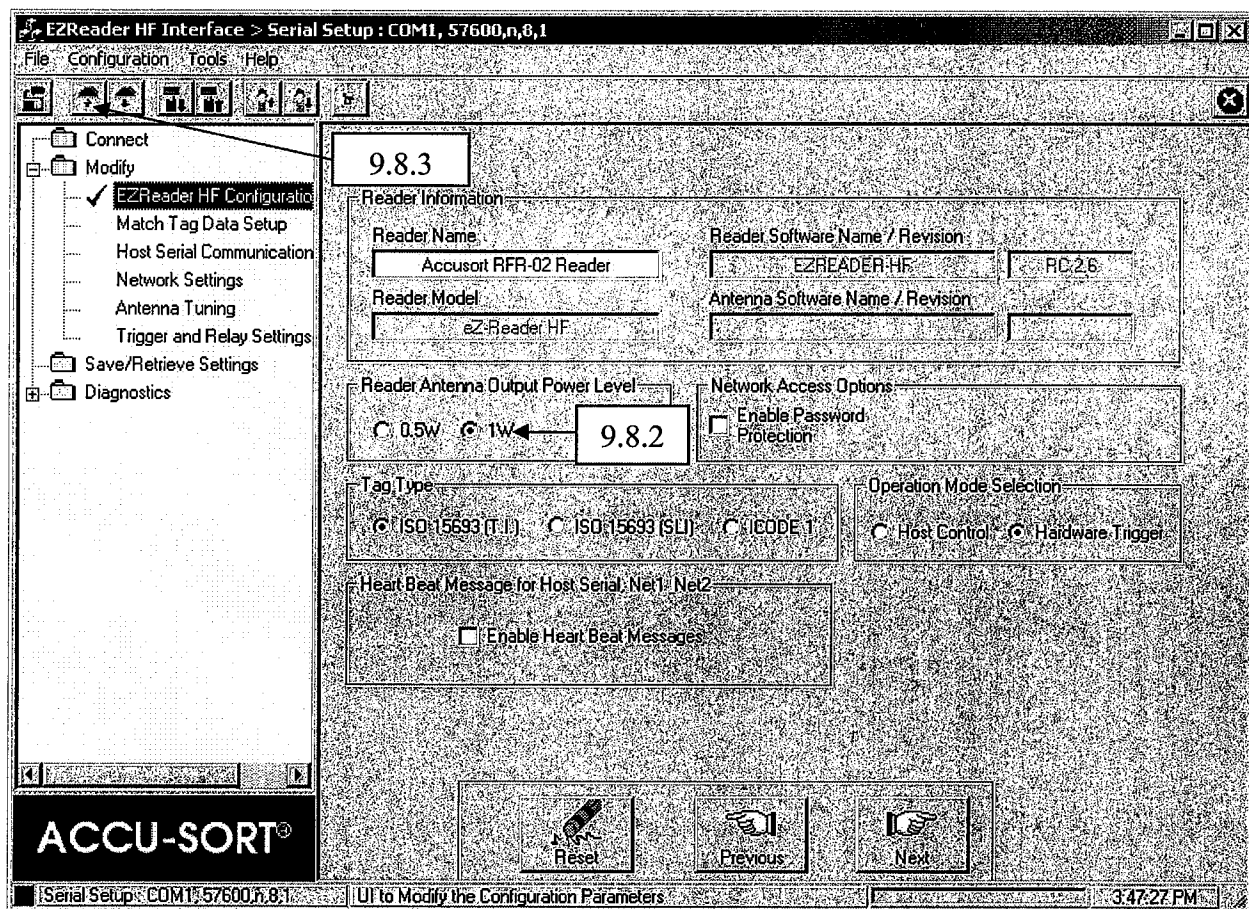

Figure 12
See Figure 12 for reference.
- 9.8.8 Once the level has been set; close the Antenna Power Fine Adjustment Screen and **SAVE** the Reader Parameters by pressing the button shown in Figure 12 and 13.
- 9.8.10 Referring back to Figure 12 select .5W for Reader Antenna Output Power Level and then **SAVE** the Reader Parameters.